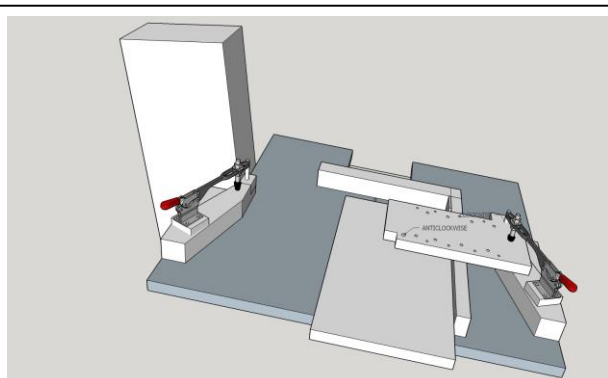

Figure 5: RHS Clockwise Pins
- e. Cut the pins as described in Part 1. See Figure 5.